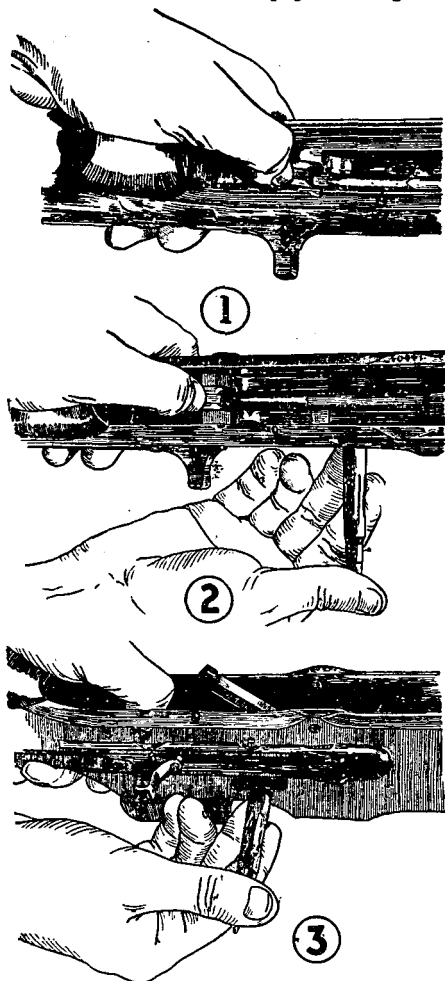

FIGURE 5.—Removing firing pin without disassembling.
■ 10. TO REMOVE FIRING PIN WITHOUT DISASSEMBLING (fig. 5).—To remove firing pin without disassembling the rifle, lay rifle upside down on table, muzzle to the front. Remove the trigger group. Place rim of cartridge under *center* of bolt guide. With the right hand, slowly pull the operating handle all the way to the rear, taking care not to dislodge the rim of the cartridge from beneath the bolt guide. With the left hand, palm up, grasp the stock so that at least two fingers of the left hand are on the operating handle, holding it to the rear, while the thumb of the left hand is on the bolt link in the rear of the receiver (fig. 5 ①). Release the operating handle with the right hand, it still being held in the rearmost position by the fingers of the left hand. Pry the bolt guide outward with the right hand by placing the middle finger of the right hand under the base of the cartridge while the thumb exerts pressure on the nose (fig. 5 ②). Press down on the bolt link with the thumb of the left hand, causing the bolt to break at the bolt lock pin (fig. 5 ③). Allow bolt to go forward until it stops. Change firing pin. Pull operating handle to the rear again and push bolt into position.